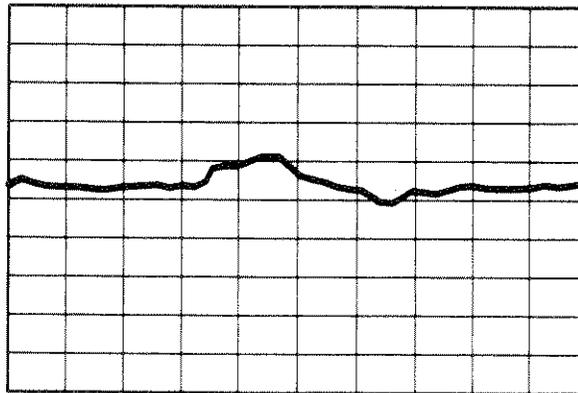

Figure 4-6. Residual FM Signal as Displayed on the Spectrum Analyzer
6. Use the analyzer RPG knob to keep the signal centered (see figure 4-6). It may be off the screen at first.